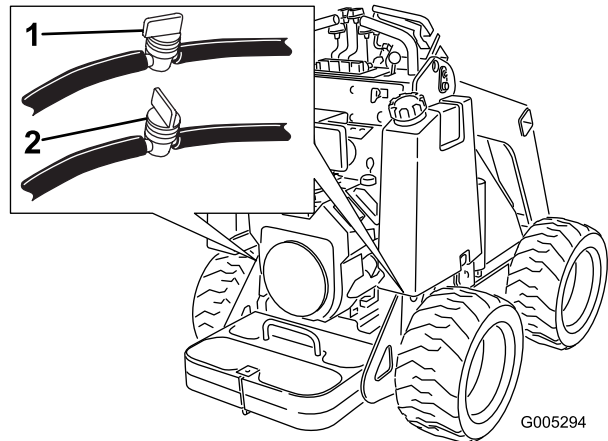

Figure 26
2. Shut off the fuel valve on the bottom of each fuel tank (Figure 26).
3. Shut off the fuel valve in the hose near the bottom of the fuel tanks (Figure 26).
8. Open the fuel valves in the hoses near the bottom of the fuel tanks as illustrated in Figure 26.